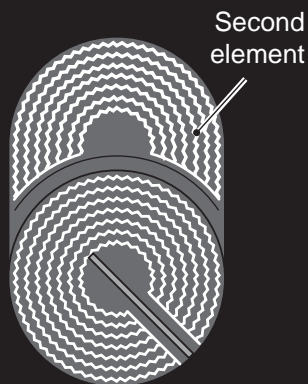

Fig. 2.3
- The cooktop is supplied with a power cord already fitted to the appliance and it is suitable for a single-phase type electrical connection (fig. 2.3).